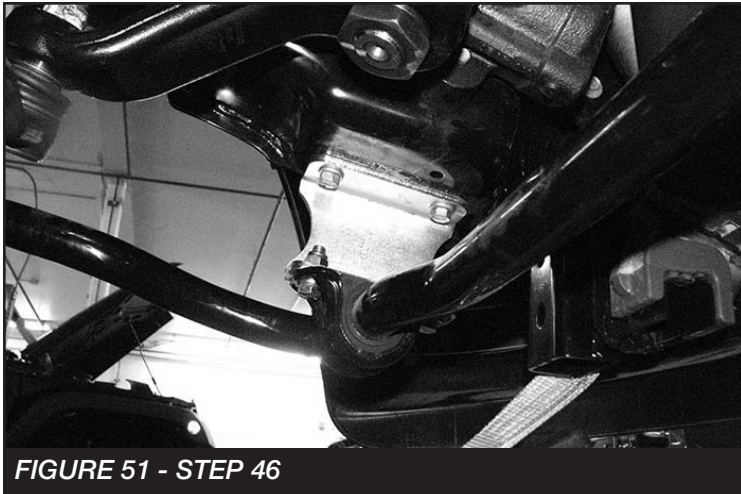

FIGURE 51 - STEP 46
46. Locate the new sway bar drop brackets FT44043 (Driver) and FT44044 (Passenger). Install the new brackets on the frame using the factory hardware. Install the sway bar onto the new brackets using the supplied 7/16" hardware. Torque to 80 ft-lbs. **SEE FIGURE 51**